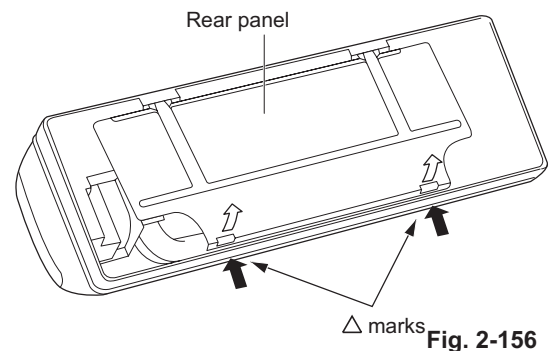

Fig. 2-156
- (2) Press the 2 △ marks on the frame cover and disengage the stationary tabs from the frame. (Fig. 2-156)
- (3) Remove the rear panel.